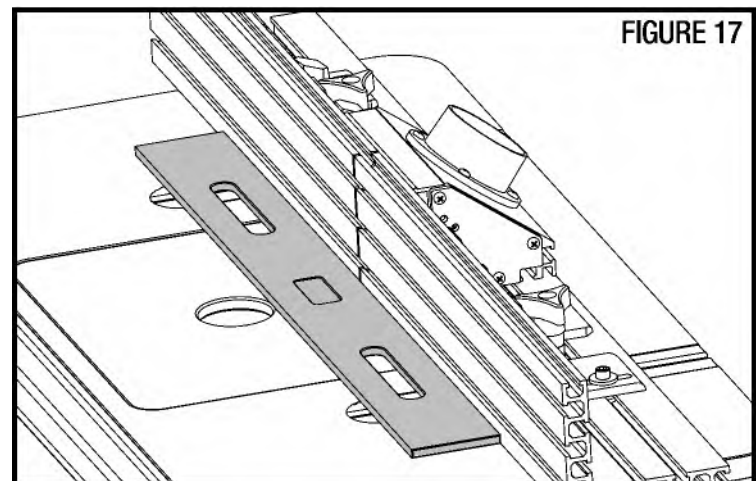

FIGURE 17
36. Use a reliable straight edge to check that the Infeed and Outfeed Fence are parallel. **FIGURE 17.**